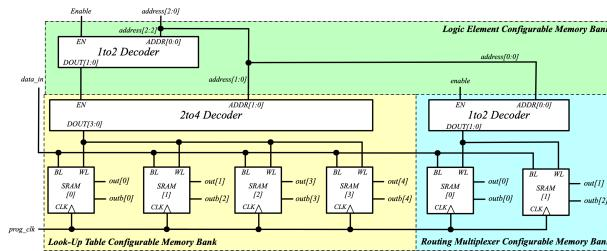

Fig. 7.4: Example of a frame-based memory organization inside a Logic Element
Through frame-based configuration protocol, each memory cell can be accessed with an unique address given to decoders. Fig. 7.4 illustrates an example about how the configurable memories are organizaed inside a Logic Element (LE) shown in Fig. 5.1. The decoder inside the LE will enable the decoders of the Look-Up Table (LUT) and the routing multiplexer, based on the given address at address[2:2]. When the decoder of sub block, e.g., the LUT, is enabled, each memory cells can be accessed through the address[1:0] and the data to write is provided at data_in.